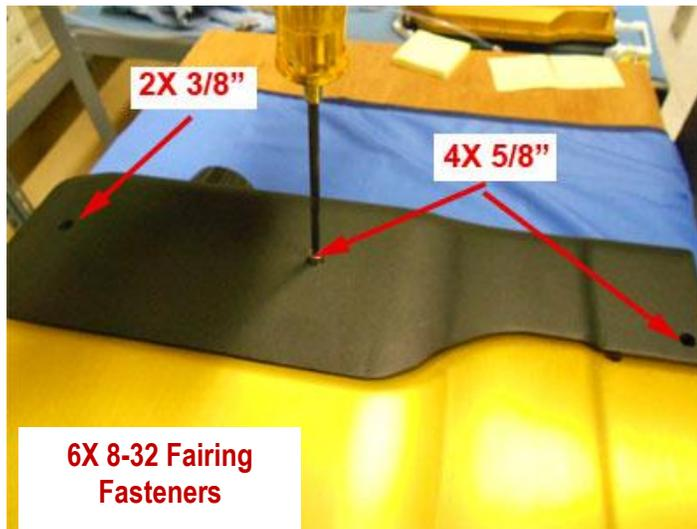

Figure 3.1.5. Placement of 3 of the Fairing Fasteners (the other three are on the bottom side of the pylon).
1. **Figure 3.1.5** shows the locations of the 6 #8-32 front fairing fasteners. There are three on each side. The top screws on either side are 3/8", and the bottom two on both sides are 5/8".